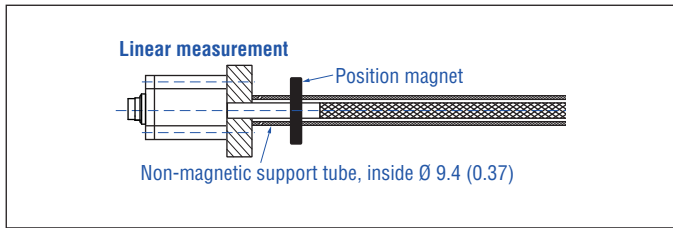

Fig. 19: Sensor with support tube
1. Always insert the flexible sensor rod in a support tube (e.g. sensor rod HD/HL/HP or HFP profile). The support tube has to be made of non-magnetic material and has to have an inside diameter of minimum 9.4 mm (0.37 in.) (Fig. 19). The support tube can be straight or bent.